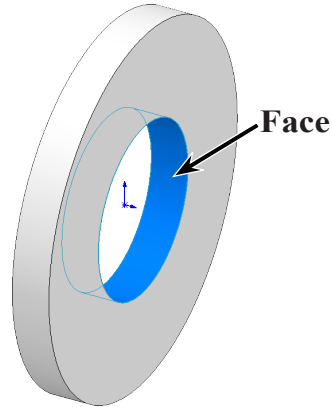

Fig. 5
Step 1. Click a **cylindrical face** to select it, **Fig. 5**.